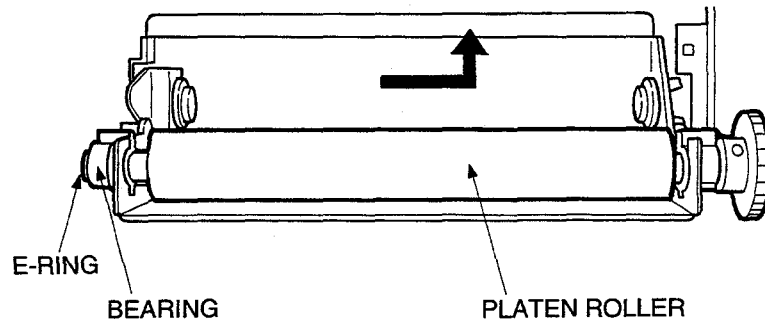

Fig. 2-2
2. Remove the E-RING on the left side of the PLATEN ROLLER. (Fig.2-2)
3. Remove BEARING. (Fig.2-2)